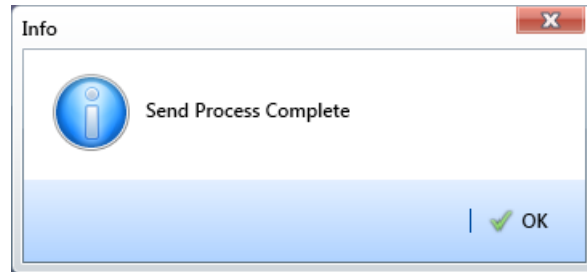

Figure 7-27. Send Process Complete
- 28** When a message displays confirming the send process is complete, click  **OK** to close the message (Figure 7-27). PCS Axis sends the survey file to the *PSData* folder on the Allegro.